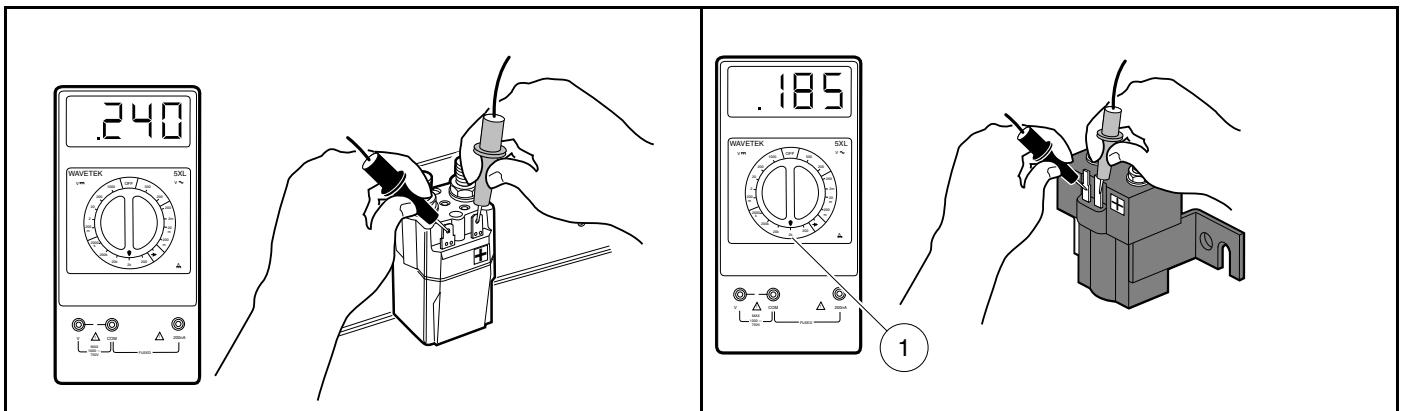

Figure 12-8 Activating Coil Test – Factory-installed Solenoid
- A reading of 200 to 250 ohms should be obtained for factory-installed solenoids (**Figure 12-8, Page 12-21**). If not, replace the solenoid.